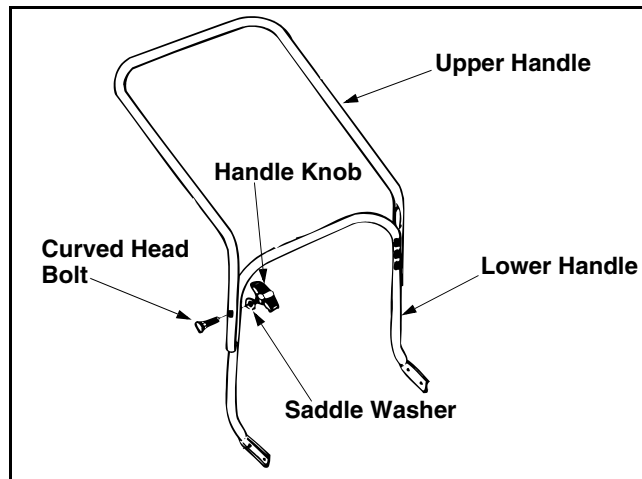

Figure 1
- Place the upper over the lower handle, aligning the holes in the upper handle with the middle holes in the lower handle. See Figure 1.